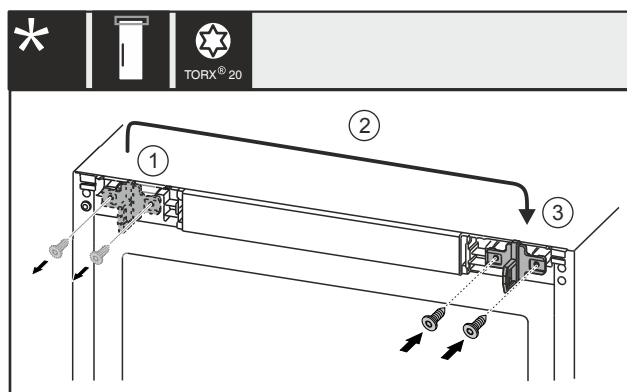

Fig. 26 With electric lock*
- ▶ Use screwdriver to unscrew the screws Fig. 26 (1)*
- ▶ Move the locking hook Fig. 26 (2) to the opposite side.*
- ▶ Use screwdriver to place the screws Fig. 26 (3) and tighten them.*